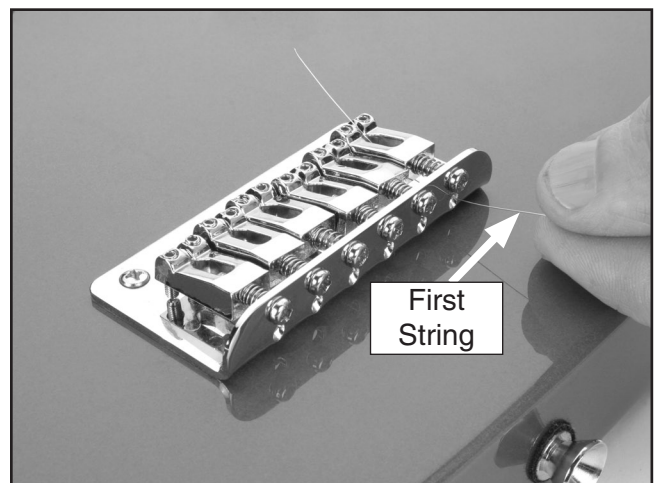

Figure 23. Installing 1st string.
1. Slide the 1st string through the corresponding hole in the bridge (**Figure 23**).